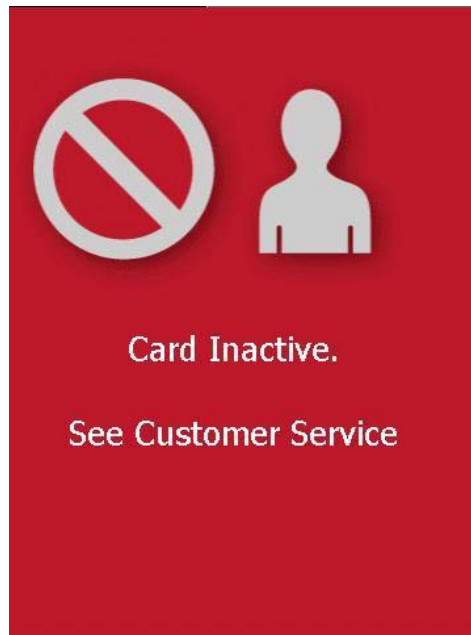

Figure 4-13 Card Inactive
4.1.1 Card Inactive When a cardholder taps a not activated Farecard on the OV|41, the screen shown in **Figure 4-13** appears.